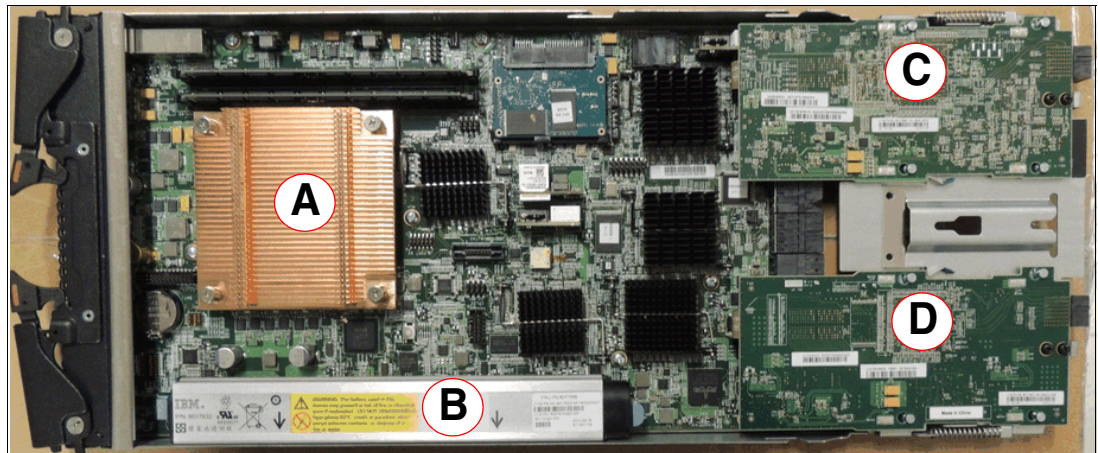

Figure 2-3 Components and board layout of the control canister
The control canister is responsible for the management of all the virtualization, RAID functions, advanced features and functions of the IBM Flex System V7000 Storage Node and all command and I/O to its internal drive slots and the expansions that it is connected to. The control canister is a Customer Replaceable Unit (CRU). Figure 2-3 is a picture of the control canister with its cover removed.
In Figure 2-3, the processor (A) is a quad core Jasper. There are also two DIMMs which make up the cache memory and the battery backup unit (B) which beside the control canister is also a Customer Replaceable Unit (CRU).